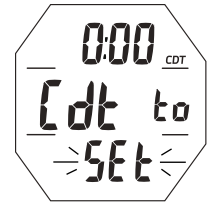

Fig. 7B - CDT STATUS (to access Set)
- A (< 2 sec) - to step forward through selections of OFF, ON, and SET (Fig. 7B).